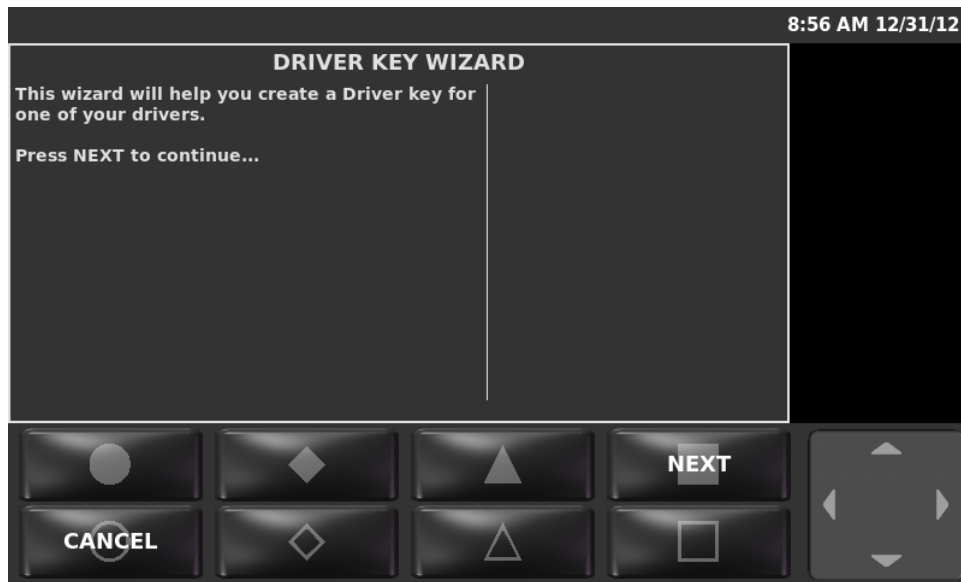

Figure 11: Driver Key Wizard
- STEP 4: The Driver Key wizard will appear, as shown in Figure 11.